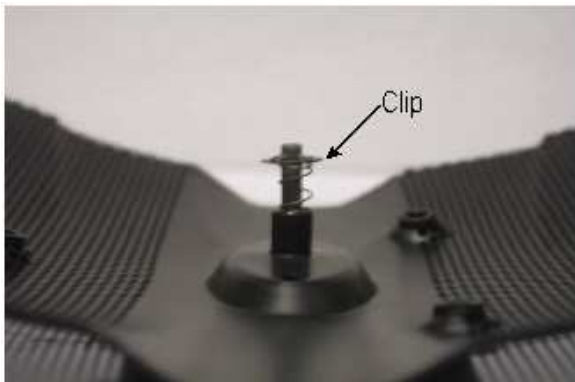

Figure 1. Correct placement of the clip. The mute button will function properly.
The AccuMic II activates the mute function when the button is pressed and toggles a switch on the PC board. The button comes through the cover as a rod. A spring is placed over this rod and is secured in place by a clip. The position of this clip is critical to the functionality of the mute. When the clip is close to the end of the rod, the button compresses and recoils properly when it is pressed and released (see Figure 1). If the clip is placed too far away from the end of the rod, the spring will be more compressed which drives the rod into the switch on the PC board and prevents the button from recoiling (see Figure 2). When the button does not release properly, the mute will not turn on or off on the AccuMic II unit.
3. Adjust the clip on the rod to 1/8 inch from the end (see Figure 1). You may need to rotate the button back 90 degrees to loosen the tension on the spring before adjusting the clip.